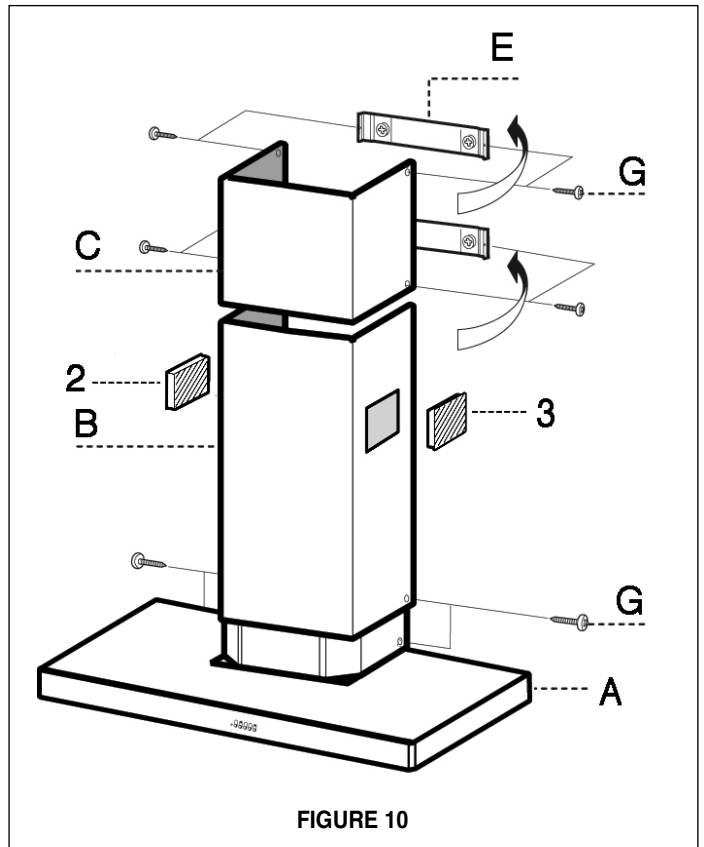

FIGURE 10
2. Install the UPPER CHIMNEY COVER (C in FIGURE 10) by slightly widening the two sides and hooking them behind the CHIMNEY MOUNTING BRACKETS (E). Secure the sides to the CHIMNEY MOUNTING BRACKETS with the 4 CHIMNEY SCREWS (G).
3. Install the LOWER CHIMNEY COVER (B) by slightly widening the two sides of the LOWER CHIMNEY COVER and hooking them between the UPPER CHIMNEY COVER and the wall making sure that it fits snugly. Secure the LOWER CHIMNEY COVER to the CANOPY SECTION (A) with 2 CHIMNEY SCREWS (G).